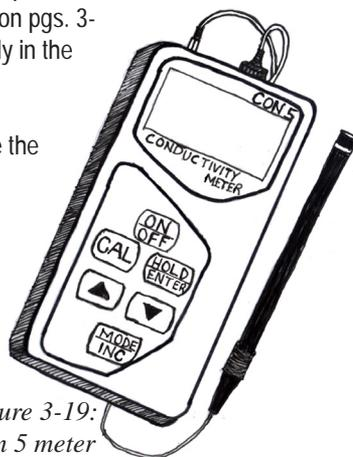

Figure 3-19:
- 1 Con 5 Conductivity Meter (Figure 3-19).
3. Press and release the **ON/OFF** button to turn the meter on (Figure 3-19).